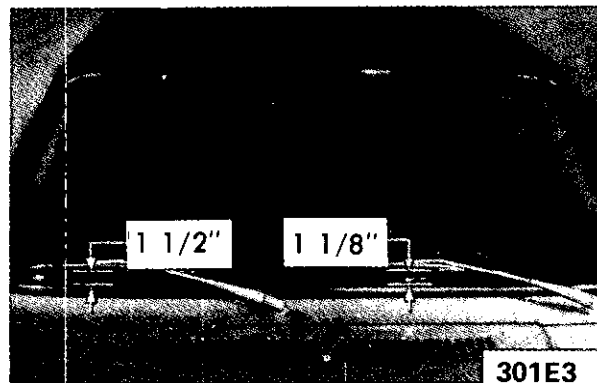

Figure 1E-3 Wiper Blades in Park Position
5. Install wiper blades and check the position of the blades in the park position. See Figure 1E-3.
1. Remove nuts and remove both wiper arms. See Figure 1E-4.
2. Remove three (3) bolts from each windshield